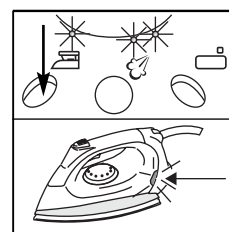

fig. 4
- Press the Iron ON/OFF switch. The iron indicator light (red) and 'iron temperature' light (orange) on the handset will come on (Fig.4).